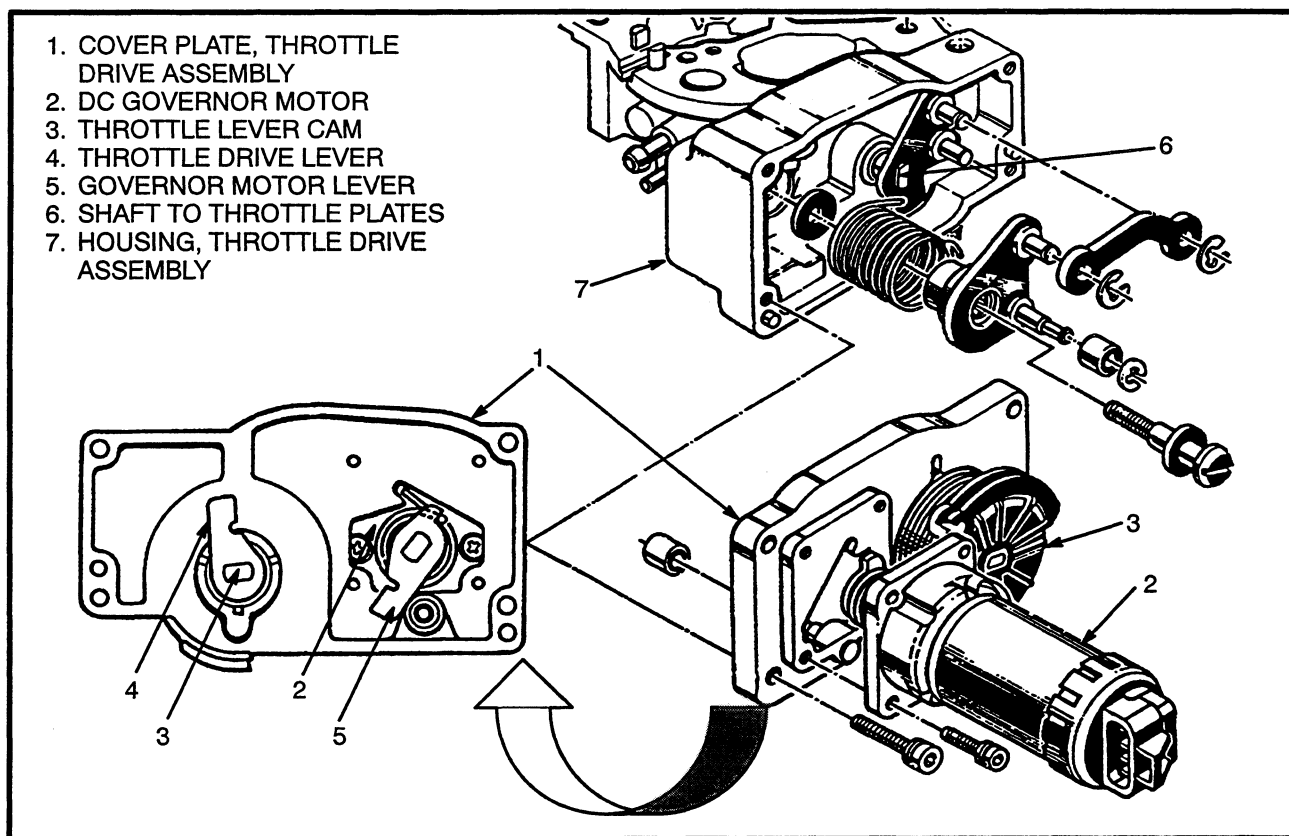

FIGURE 16. GOVERNOR MOTOR AND THROTTLE DRIVE ASSEMBLY
A control cable connects the accelerator pedal to the throttle lever cam. See FIGURE 16. The throttle lever
When the engine speed is less than approximately 2500 rpm, the governor motor is not energized and a return spring keeps the governor motor lever at its parked position (item 5, FIGURE 16.). The throttle plates can move with the position of the throttle lever cam and no governor action is used.